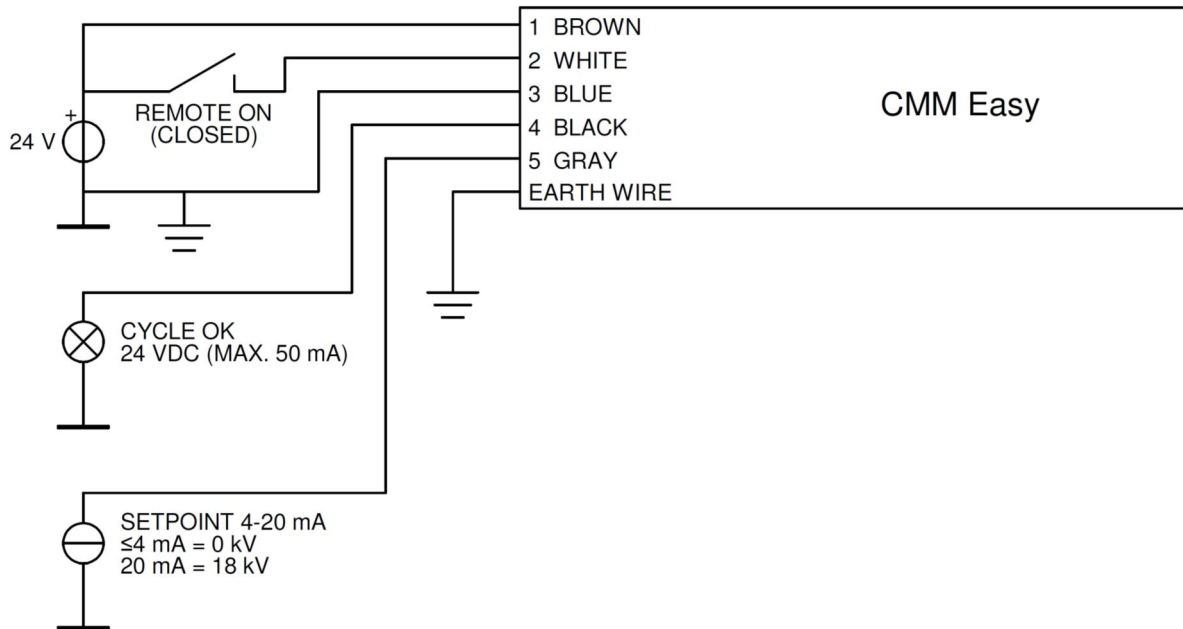

Figure 4, connections of the CMM Easy
- Connect the cable as shown in figure 4.